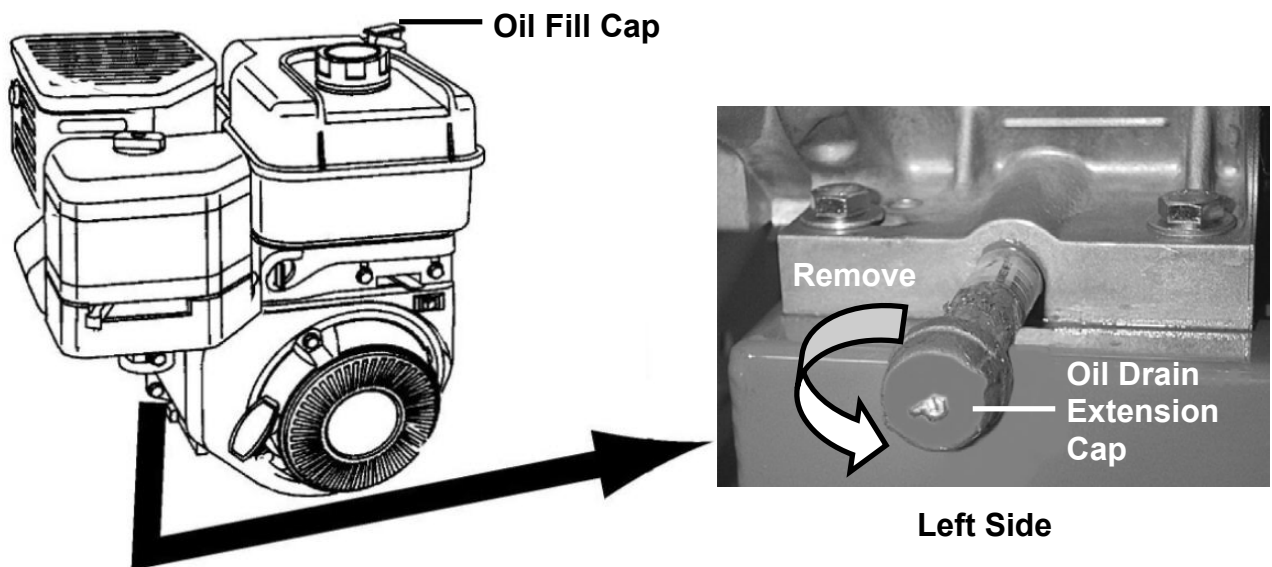

Figure 39
1. Position a suitable oil receptacle under the engine oil drain and remove the engine oil Fill Cap (*Figure 39*).
2. Remove the engine Oil Drain Extension Cap counterclockwise using the pliers (*Figure 39*).